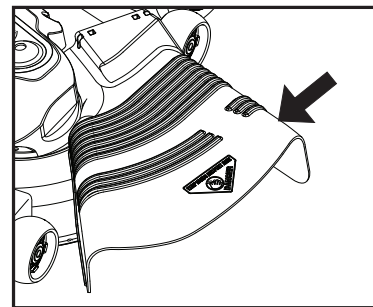

Fig. 13
**CAUTION:** Do not operate the mower without either the entire grass catcher, on mowers so equipped, or the deflector chute in place (See Fig. 13).